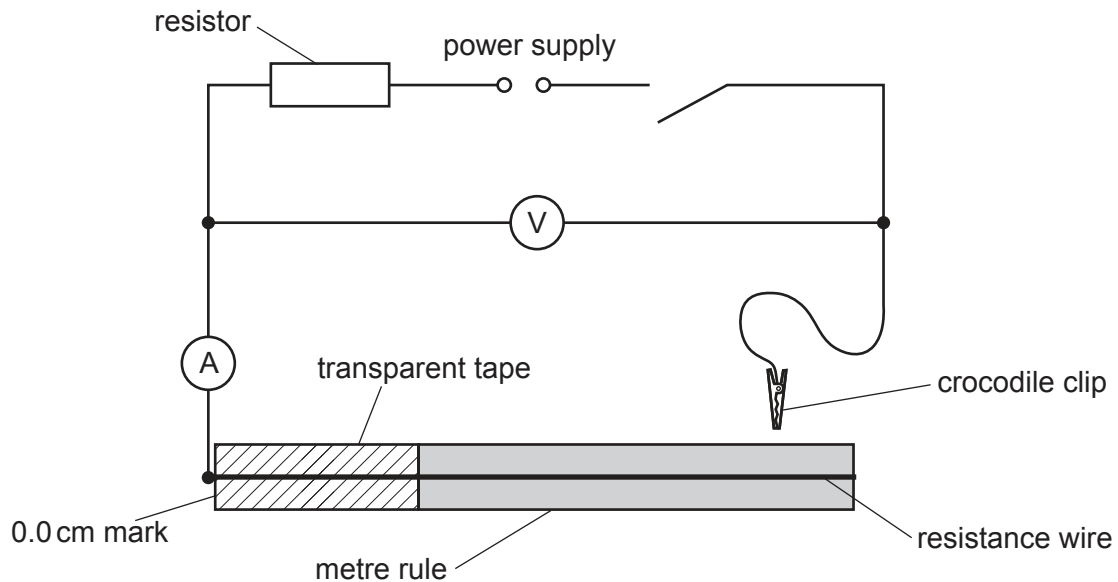

Fig. 3.1
- (vii) Sufficient connecting leads to set up the circuit shown in Fig. 3.1.
2. The circuit is to be set up for candidates as shown in Fig. 3.1, with the crocodile clip not connected to the resistance wire.
Ensure that the circuit is connected as shown in Fig. 3.1. Check that the circuit is working and disconnect the crocodile clip from the resistance wire. Switch the circuit off.